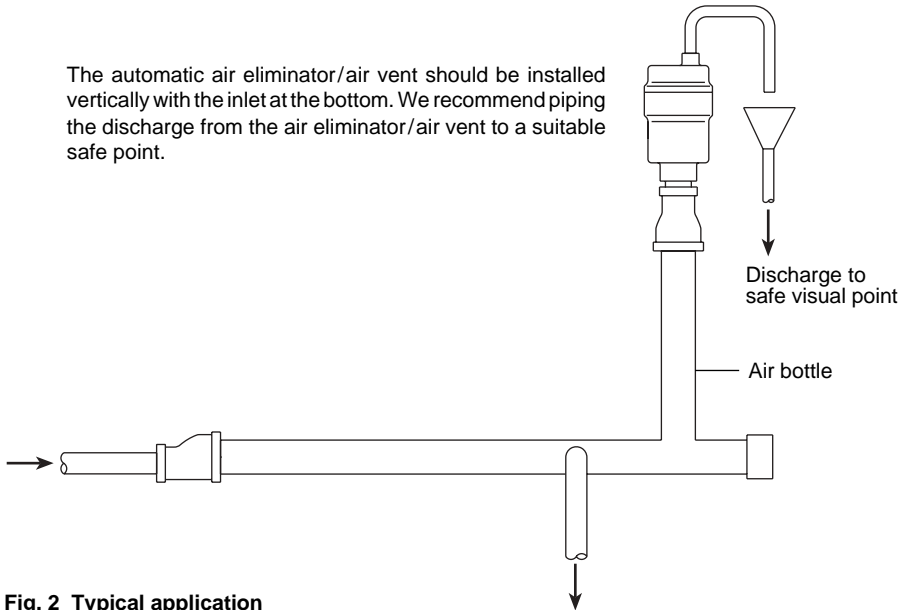

Fig. 2 Typical application
- 3.4** The automatic air eliminator/air vent should be installed vertically with the inlet at the bottom. We recommend that a drip pipe be fitted discharging to a safe place. To enable this to be done the outlet is provided with a 1/4" BSP or NPT male thread. See Fig. 2 for a typical application.